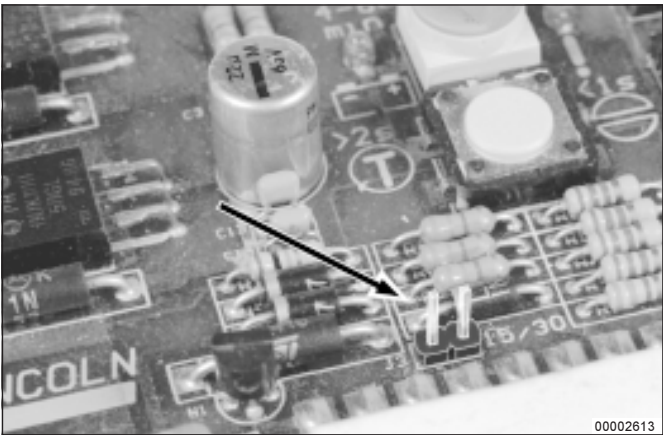

Fig. 3 - Printed circuit board without jumper 15/30
- The power supply (+ and -) is applied (jumper 15/30, Fig. 3, has been removed). When the machine contact (external contact) is switched on, the centralized lubrication system is ready for operation.